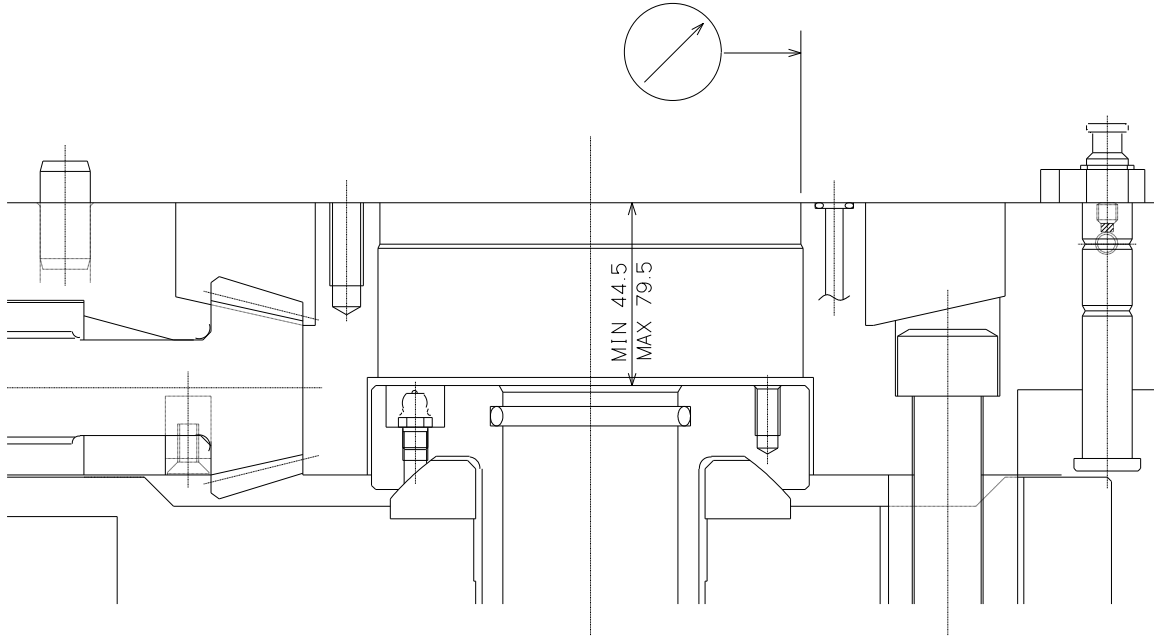

Fig.14
- Adjust the position of the plunger [D] using the connection handle [Z] as shown in Fig.14. Note that the plunger is equipped with a ball plunger (to stop plunger from rotating), so be sure to complete the adjustment at the position where you feel this response.